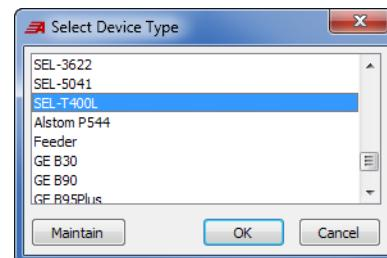

Figure 75 Add SEL-T400L
Step 1. Right-click in the Connection Explorer and select **Add > Device**. Select SEL-T400L, as shown in *Figure 75*.